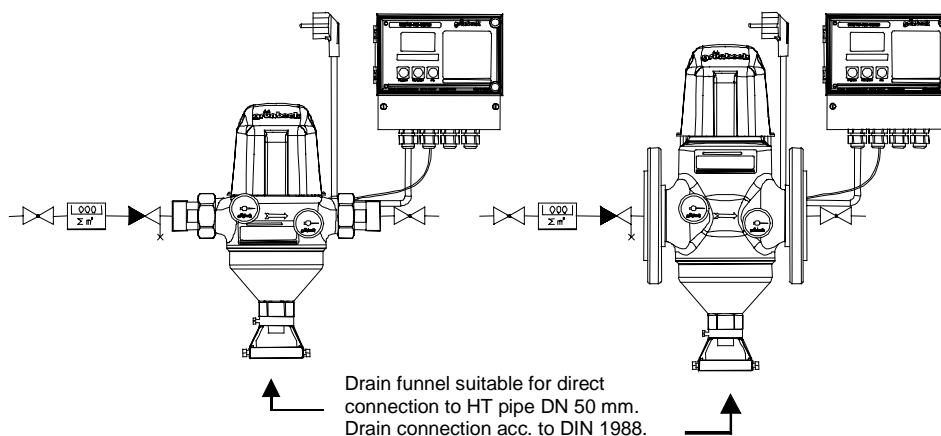

Fig. D-2: Installation example of GENO® backwash filter MXA
For installation of the GENO® backwash filter MXA, certain rules must be observed by all means. Additional recommendations facilitate the operation of the system. The installation instructions described here are shown in Fig. D-2.
1. Connect water supply according to the installation example (Fig. D-2) and observe the instructions and recommendations of chapter D-1 as well as the flow direction.